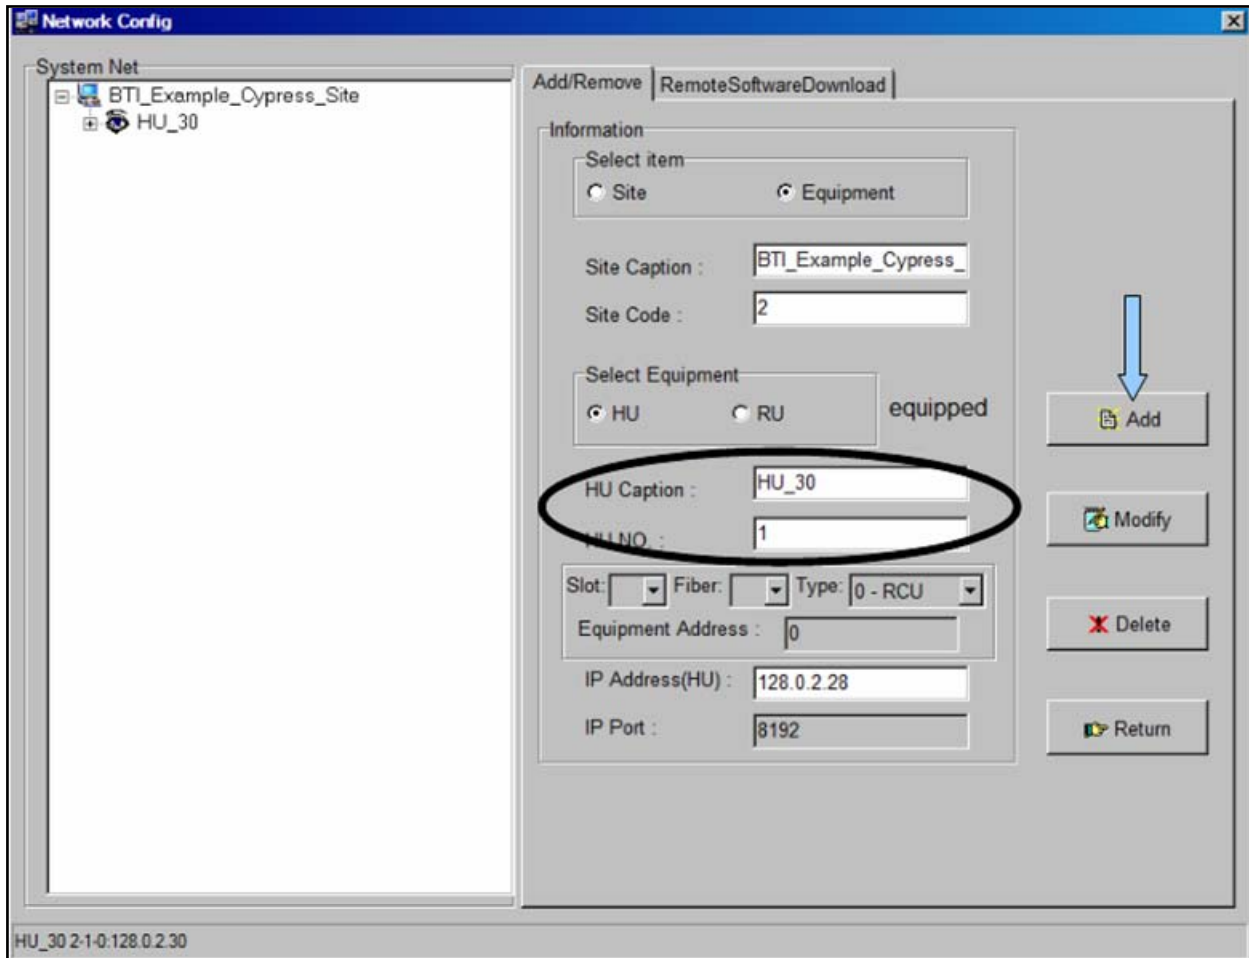

Figure 5-10. Configured Host Unit
4. Verify that all changes have been correctly entered and click *Add*, **Figure 5-10**.